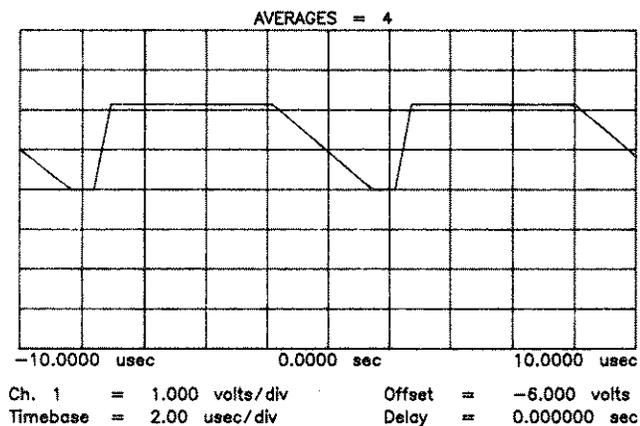

Figure 5-14b. Sample of Oscilloscope Display
4. Adjust A3R620 (PRETUNE) for a voltage of $-6.0 \text{ volts} \pm 0.5 \text{ volts}$ at the bottom of the integrator waveform (the oscilloscope Delta V and marker functions can be used to set a reference line at -6V as a calibration aid). See Figure 5-14b.